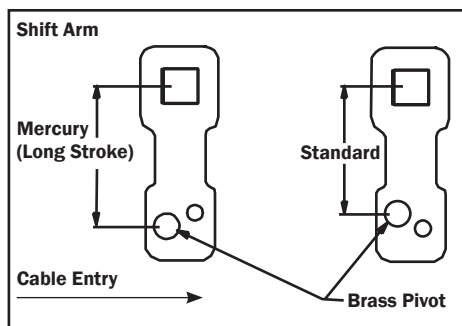

Figure 3.
If the transmission shift function is different than the control shift arm, reposition the arm by removing hex head screw and rotate the shift arm 180 degrees. Pay attention to the 2-hole pattern on the shift arm for mounting pivot. See Figure 3.
To obtain standard ($2\frac{3}{4}$ ") cable shift travel at engine, use shift arm on control at short pivot hole location as shown in Figure 3. For Mercury, long (3 inch) cable shift travel at engine is necessary. Assemble shift arm to control using longest pivot hole location.
The pivot must be in the hole nearest to cable entry end of the control. Using the hole in the shift arm further most away from the cable mounting support will produce unequal shift travel between "neutral to forward" and "neutral to reverse", resulting in improper shift action. (See Figure 3.)
The control shift lever and the transmission shift lever must coincide at the forward, neutral and reverse positions. Different makes of transmissions may require different amounts of shift travel. For this reason, the control shift lever is provided with two (2) positions for attaching the shift cable: one for the standard travel and one for the longest travel. (See Figure 3.)